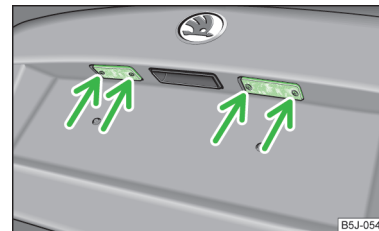

Fig. 168
- › Open the tailgate and unscrew the glass cover » Fig. 168.